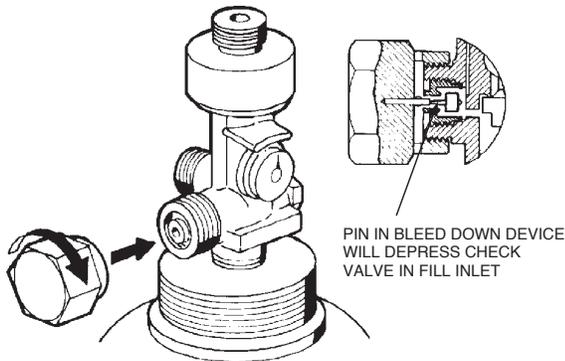

FIGURE 8-2
- b. Attach bleed down device, Part No. 426028 for the CV-98 or Part No. 416656 for CV-90, to valve fill inlet. See Figure 8-2.